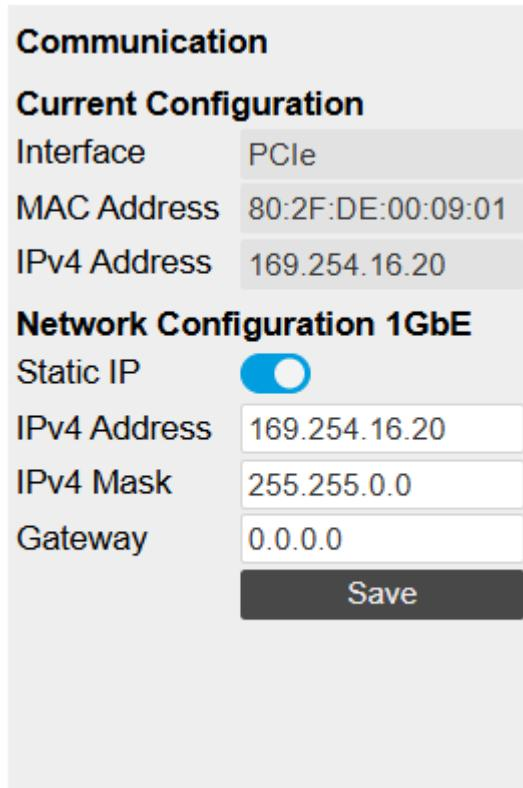

Figure 2.15: Configuration of static IP in LabOne UI
3. Open the LabOne user interface (UI) and connect to the instrument via USB.
4. Open the "Device" tab of the LabOne UI and locate the "Communication" section as shown in Figure 2.15.